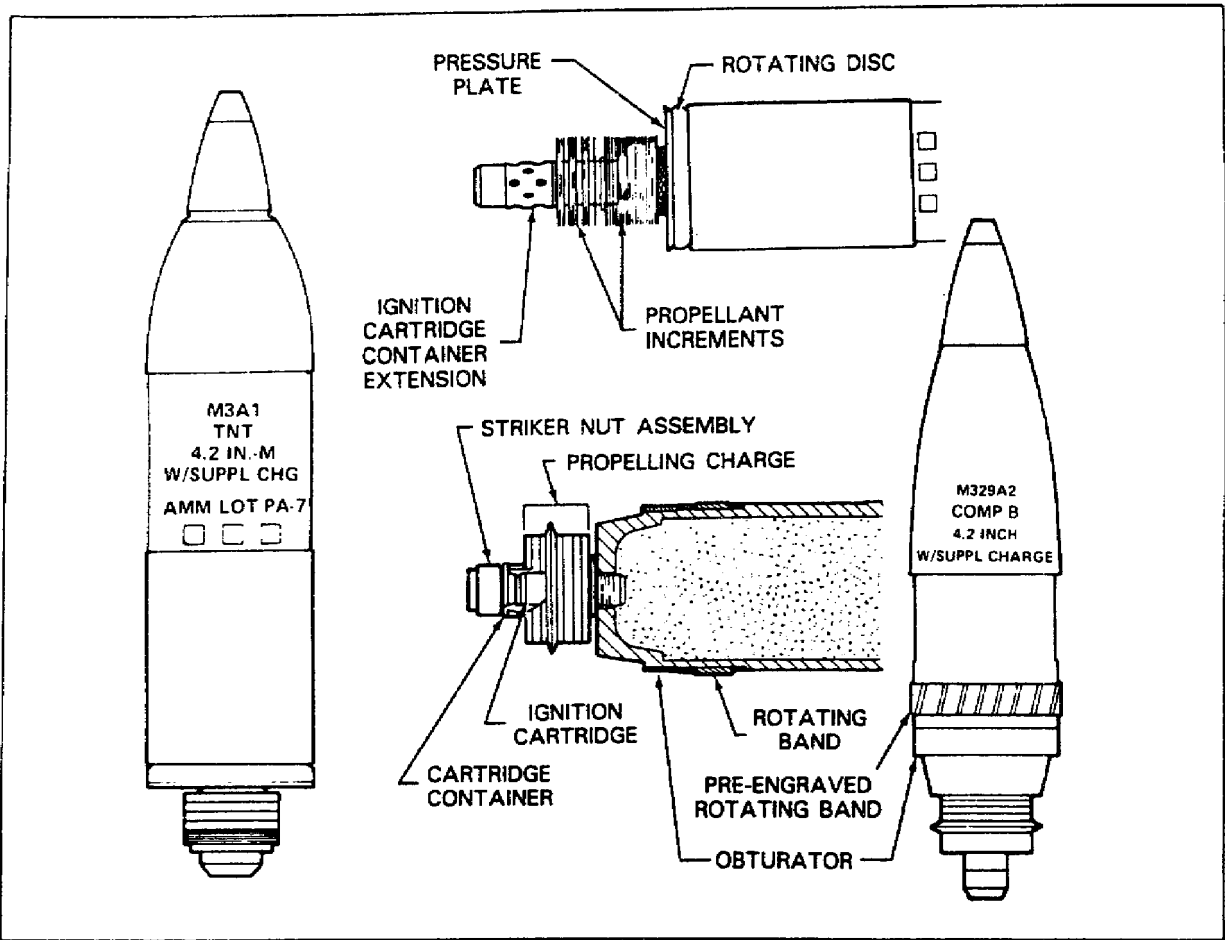

Figure 32. 4.2-Inch HE Mortar Cartridges.
4.2-Inch HE Mortar Ammunition. The 4.2-inch HE mortar cartridge is used to create blast and fragmentation against personnel and material. It is produced in two basic configurations. See Figure 32. The cartridge on the left is the most common. It has a rotating disc at the base that expands upon firing and engages the lands and grooves. This causes the round to spin when it is forced through the bore. The spin continues in flight. The cartridge on the right has no rotating disc. It has a rotating band that is pre-engraved to fit the lands and grooves, and an obturator made of a rubberized material immediately behind the rotating band. The obturator expands and seals gases when the round is fired. Both cartridges use basically the same type of ignition cartridge. Examine the two types of 4.2-inch mortar tail assemblies in Figure 32. All 4.2-inch HE mortar cartridges are painted in the standard color code for HE, olive drab with yellow markings.